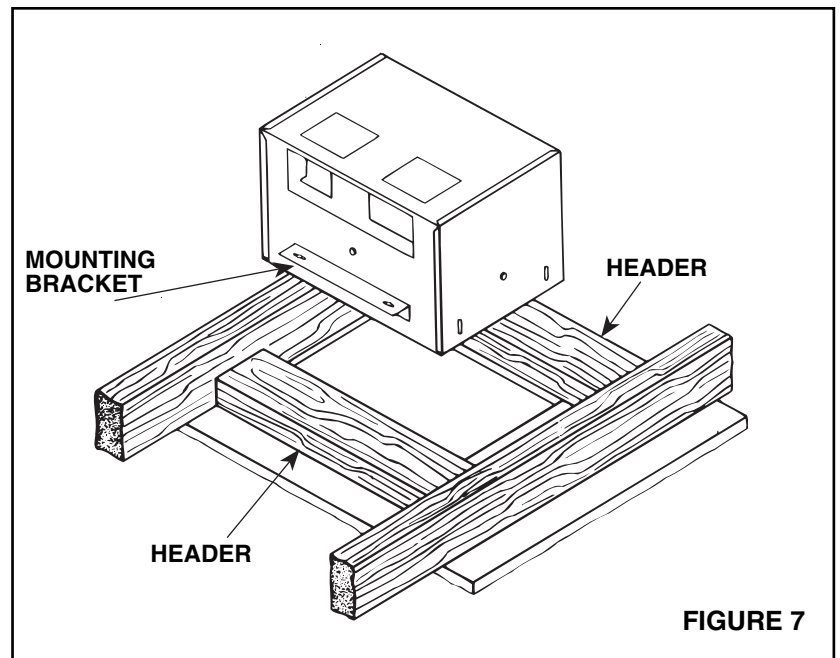

FIGURE 7
3. Refer to **Figure 7**. In attic or crawl space, mark ceiling for cutout by using the housing as a template. Cutout dimensions $10\frac{3}{16}$ " x $14\frac{3}{8}$ ". The short side ($10\frac{3}{16}$ " or cutout must be next to the ceiling joist.
5. Refer to **Figure 7**. Install headers between joists using nails or screws leaving $10\frac{3}{16}$ " between them.
6. Refer to **Figure 7**. The mounting brackets must be mounted on the long sides of the housing. **NOTE:** Each of the mounting brackets are secured by two (2) hex nuts.